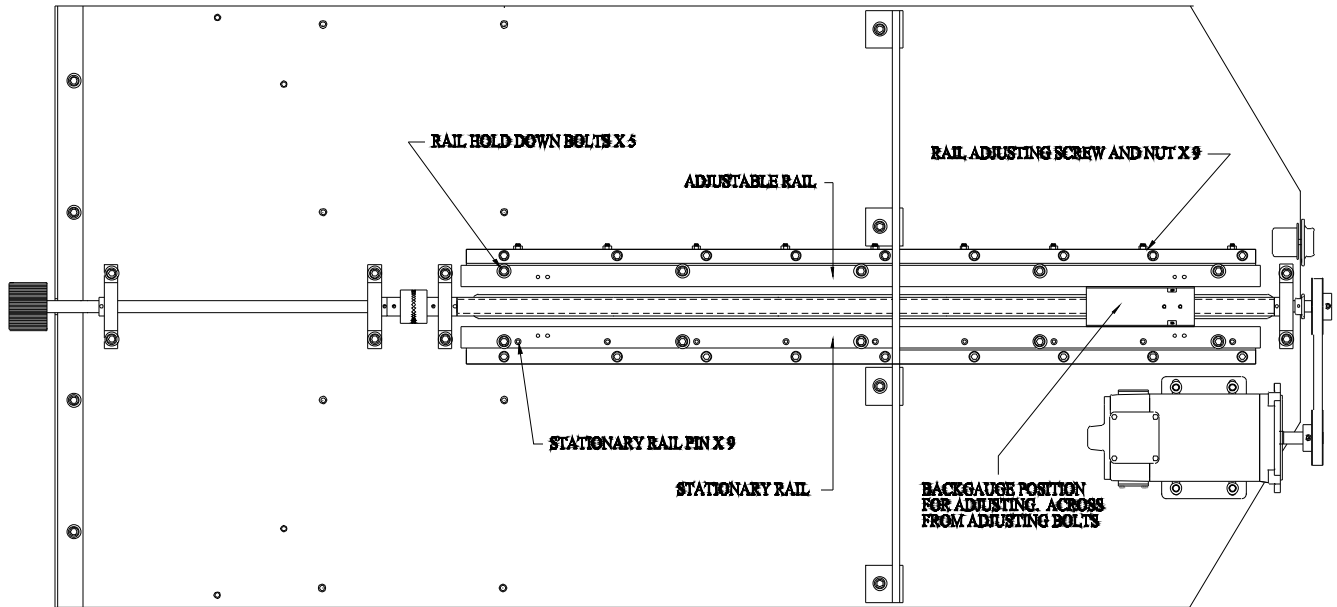

Fig 29
4. Loosen the five (5) socket head Allen bolts with a 5/16" Allen wrench along the complete length of the right guide rail. (Rail Hold Down Bolts) Fig. 29 below. Keep the bolts finger snug.
5. With the backgauge block at the adjusting location, loosen the rail adjusting hex nut with a 7/16" wrench. Fig. 29. Have someone twist the backgauge.